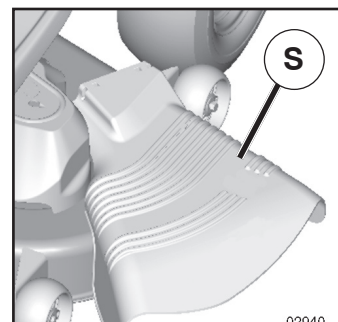

Fig. 24
CAUTION: Do not operate the mower without either the entire grass catcher, on mowers so equipped, or the deflector shield (S) in place (See Fig. 24).